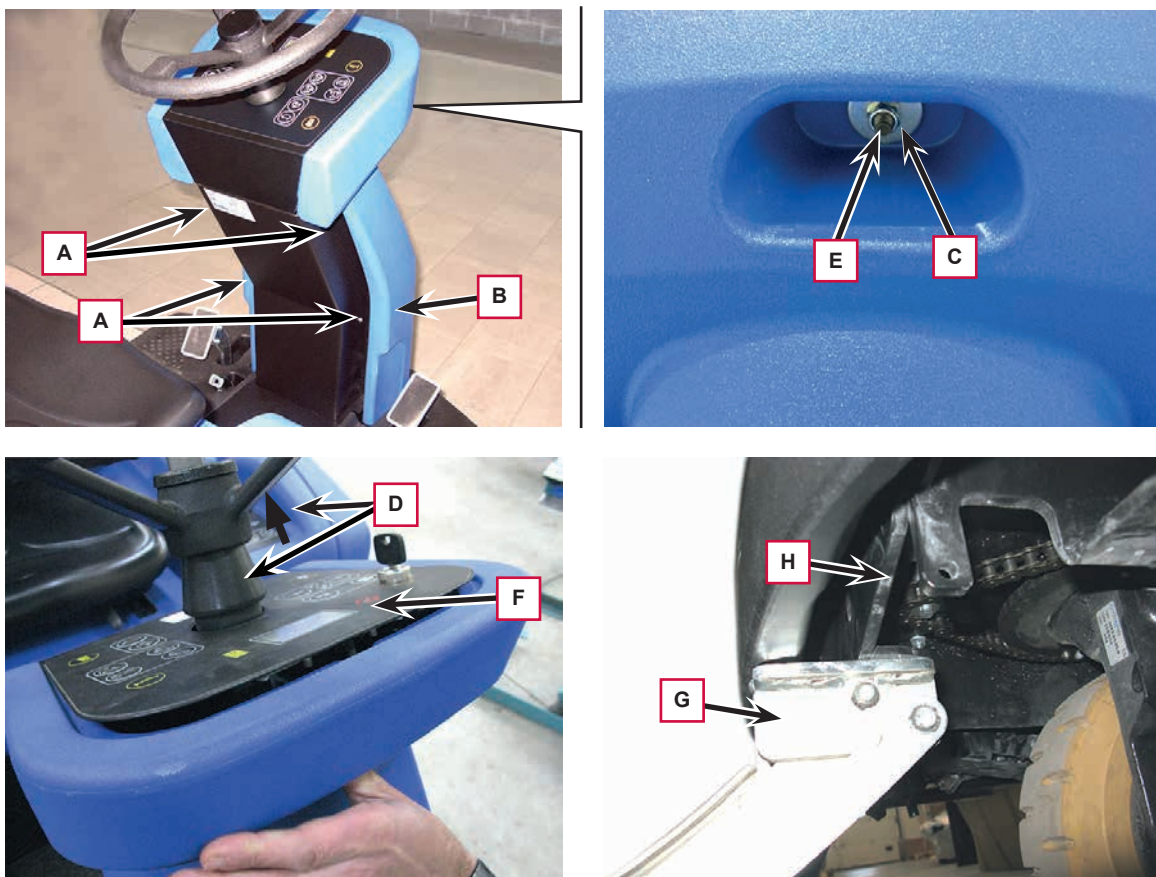

Figure 5
4. Unscrew the four screws (A, Figure 5) fastening the fairing (B).
5. Unscrew the nut (C) on the front.
6. Slide the sleeve (D) until it is flush on the steering wheel.
7. Press the stud (E), sliding it upwards (causing the Main Control Board (F) to lift slightly), then remove the fairing (B) by disengaging it from its seat and the stud (E).
8. Position a suitable lifting device (G) at the centre of the front section of the machine, on chassis bracket (H), then raise the front of the machine by a few centimeters until the driving wheel can turn without brushing the ground.